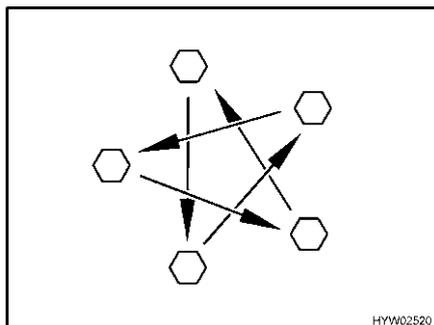

Fig. 244 Tighten the wheel nuts or wheel bolts cross-wise
- Check regularly that the wheel nuts or wheel bolts are firmly seated. Retighten the wheel nuts or wheel bolts of a changed wheel cross-wise (Fig. 244) after 50 km (30 miles). See section 13.5.2 for tightening torque.
- ▷ Tighten the wheel nuts or wheel bolts cross-wise (Fig. 244).